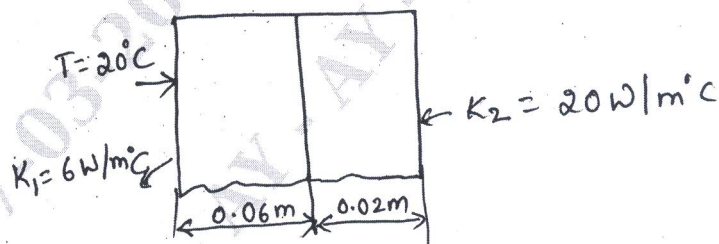

Fig Q8(a)
- 8 a. Determine the temperature distribution through the composite walls subjected to convection heat loss on the right side surface with convective heat transfer coefficient shown in Fig Q8(a). The ambient temperature is -5°C